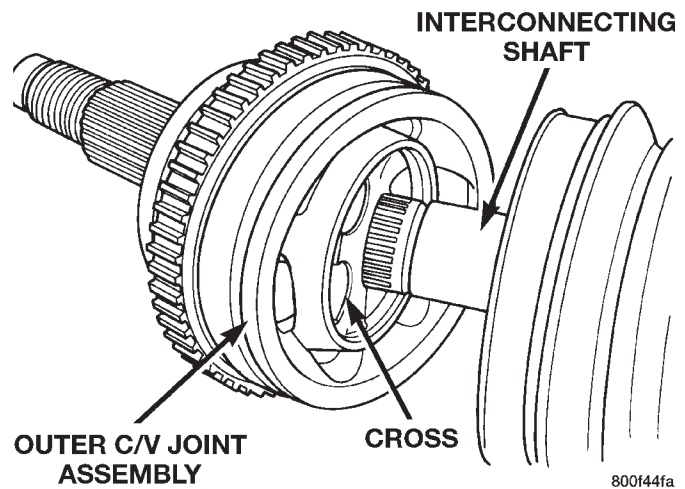
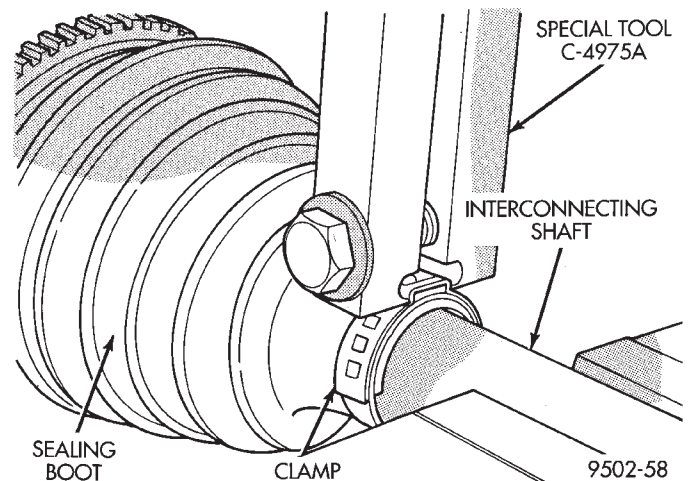
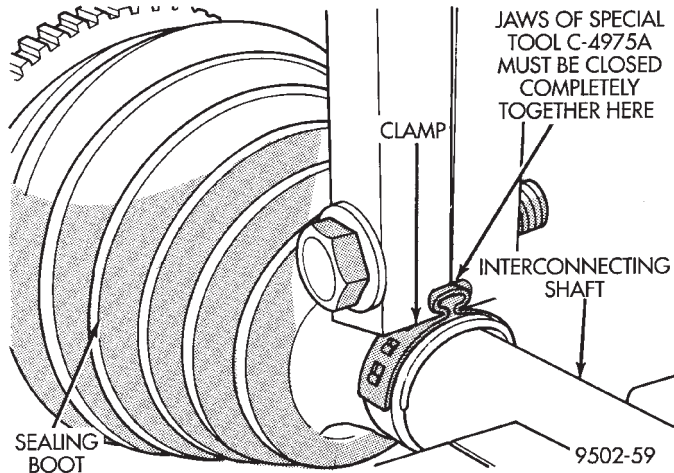

Fig. 46 Outer C/V Joint Correctly Installed on Interconnecting Shaft
Fig. 47 Crimping Tool Installed on Sealing Boot Clamp
Fig. 48 Sealing Boot Retaining Clamp Installed
(4) Outer C/V joint assembly must be installed on interconnecting shaft until cross of outer C/V joint assembly is seated against circlip on interconnecting shaft (Fig. 46).
(5) Distribute 1/2 the amount of grease provided in seal boot service package (**DO NOT USE ANY OTHER TYPE OF GREASE**) into outer C/V joint assembly housing. Put the remaining amount into the sealing boot.
(6) Install outer C/V joint sealing boot to interconnecting shaft clamp evenly on sealing boot.
(7) Clamp sealing boot onto interconnecting shaft using crimper, Special Tool C-4975-A and the following procedure. Place crimping tool C- 4975-A over bridge of clamp (Fig. 47). Tighten nut on crimping tool C- 4975-A until jaws on tool are closed completely together, face to face (Fig. 48).